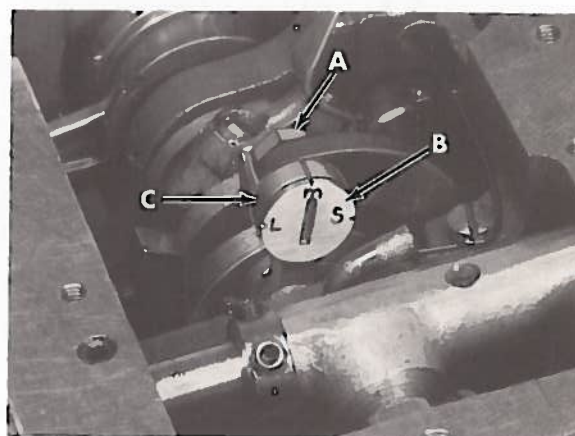

Fig. 18
Loosen nut (A, Fig. 18). Rotate handwheel until needles are at lowest position. Align proper mark S, M or L on stud (B) to timing mark on link (C). Torque nut (A) to 25 in. lbs. (29 cm/kg). Re-check 401 looper setting, then replace bottom cover and torque cover mounting screws to 19-21 in. lbs. (22-24 cm/kg). Fill machine with oil to proper level.